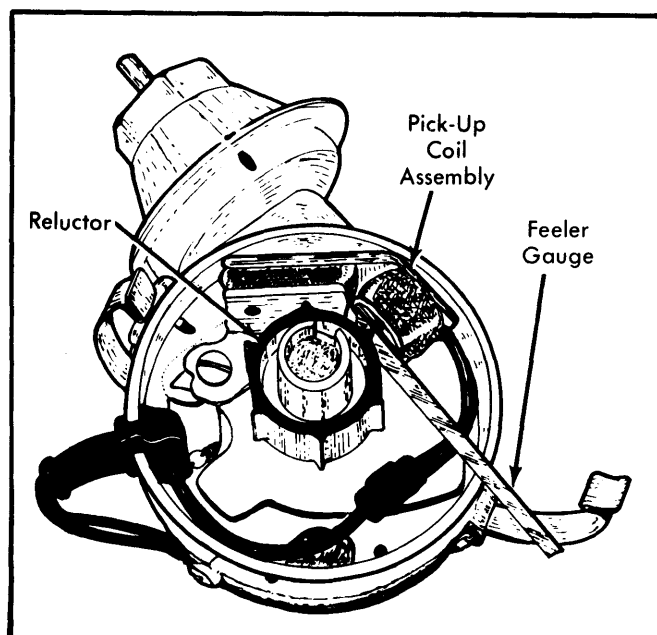

Fig. 3 Adjusting Air Gap Between Reluctor and Pick-Up Coil
1) To set air gap, loosen pick-up coil hold-down screw and align one reluctor tooth with the pick-up coil's pole piece. Install a .006" non-magnetic feeler gauge between the reluctor tooth and pole piece. See Fig. 3.